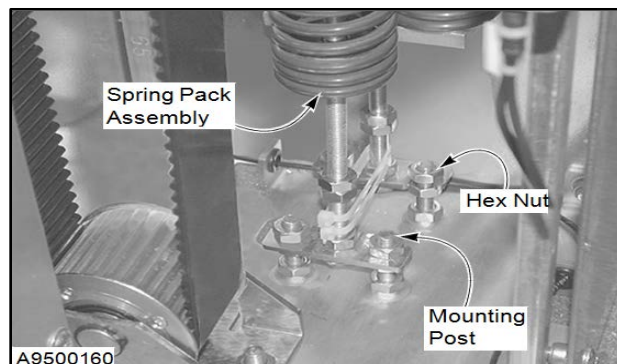

Figure 71
4. Disconnect the old spring pack assembly from the base plate. The spring pack is held in place by two hex nuts threaded onto a pair of mounting posts. (See Figure 71.)